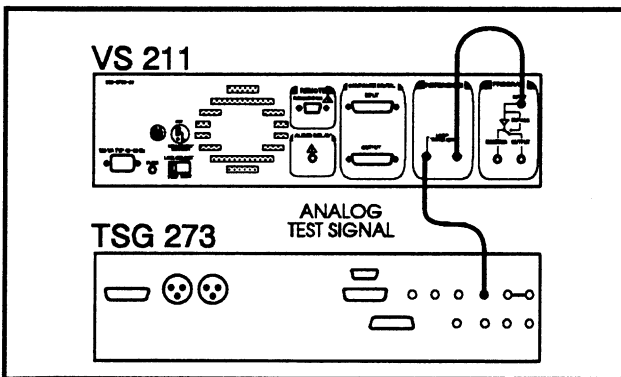

Fig. 4-21.
- a. Set up the VS 211 with a PROGRAM INPUT and REFERENCE signal as shown in Fig. 4-21.